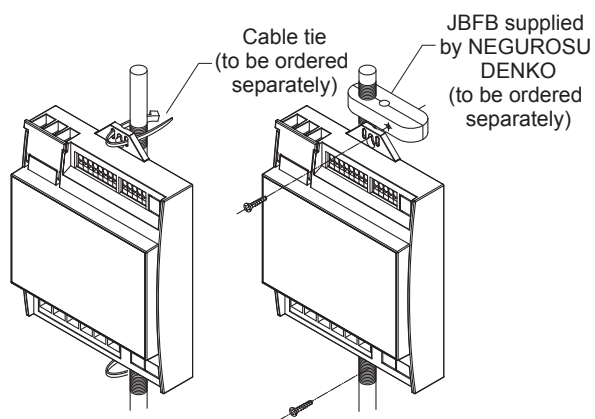

Figure 8.
- (1) At the projected portions on the upper and lower side of the product, tightly bind the cable ties through the 2 elongated holes on the projected portions. (See the left side of Fig. 8.)
- (2) If the mounting fixture JBFB supplied by NEGUROSU DENKO CO.,LTD. is used, squeeze the ceiling hanger bolt with it and tighten it while piercing the upper and lower two mounting holes with the attached screws. (See the right side of Fig. 8.)
- (3) Check that the product is firmly fastened including the parts for mounting.
- (4) When attaching the product by the ceiling hanger bolt, it may rotate around the axis of the bolt. Be careful not to apply strong tension to the wire when wiring.